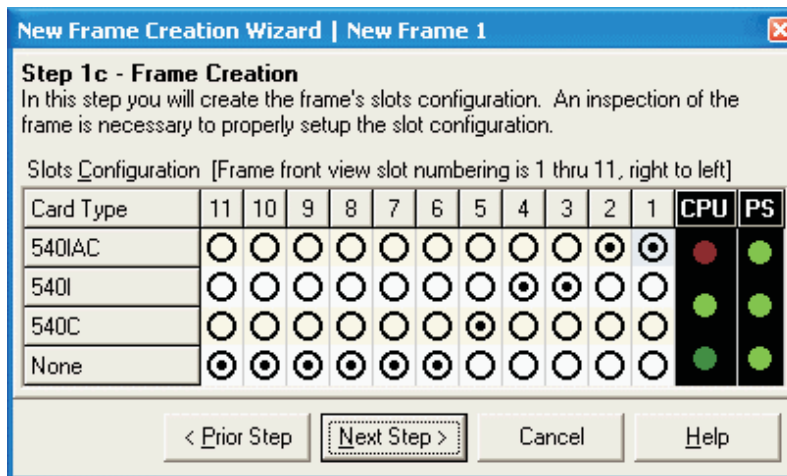

Figure 24 - New Frame Creation Wizard - Slots Configuration
**Step 1c - Frame Creation - Slots Configuration (See Figure 24)**